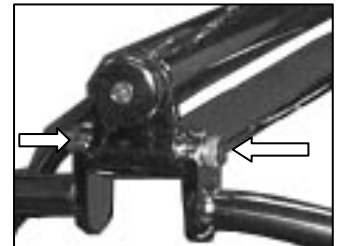

Figure 8: Transducer - A-Frame Connected
STEP 9: (Figure 8) Attach the two (2) A-Frames (8) to each end of the Transducer Bar using the two (2) 3/8-16 x 2 1/4 in shoulder bolts and two (2) 3/8-16 locknuts. Tighten securely.